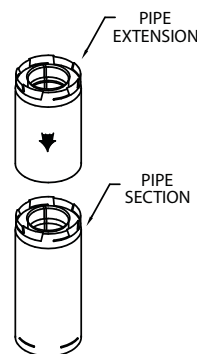

Figure 15
(1) If exact lengths or distances must be met between Elbow offsets or elsewhere, use the Pipe Extensions to adjust onto standard Pipe Sections (**Fig. 15**).